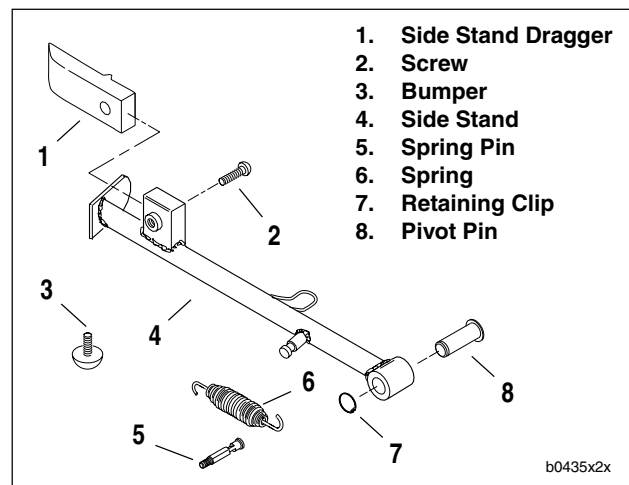
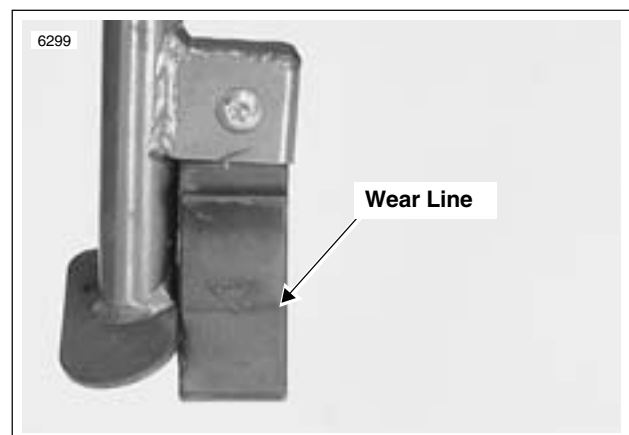

Figure 2-114. Side Stand
Figure 2-115. Side Stand Dragger Wear Limit
1. Replace dragger when worn to wear line shown in Figure 2-115.
2. See Figure 2-114. Remove spring (6) from side stand and spring pin (5).
3. Remove retaining clip (7) and pivot pin (8). Detach side stand from frame.
4. Remove bumper (3) from frame.
5. Remove screw (2) and side stand dragger (1). Replace dragger when worn to wear line shown in Figure 2-115.
1. See Figure 2-114. Attach bumper (3) to frame.
2. Attach side stand dragger (1) to side stand with screw (2).
3. Apply LOCTITE ANTI-SEIZE to pivot pin (8). Install side stand using pivot pin (8) and retaining clip (7). Do not crush side stand switch during installation.
4. Connect spring (6) to side stand and spring pin (5).